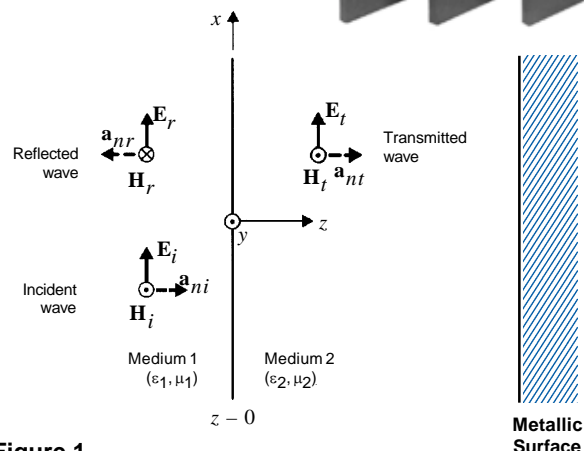

Figure 1
The basic physics of operation for any planar electromagnetic absorber involves fundamental concepts as shown in Figure 1. When an electromagnetic wave traveling through free-space encounters a different medium (at Z=0), the wave will be reflected, transmitted, and/or absorbed. It is of course, the magnitude of the reflected signal which is usually of interest in this application. For ferrite tiles, the thickness is tuned so that the relative phases of the reflected and exiting wave cancel to form a resonant condition. This resonant condition appears as a deep "null" in the return loss response. This resonance is also a function of the frequency dependent electrical properties of the ferrite material such as relative permeability (μ_r) and permittivity (ϵ_r) which interact to determine the reflection coefficient (Γ), impedance (Z) and return loss (RL) according to the following formulas: